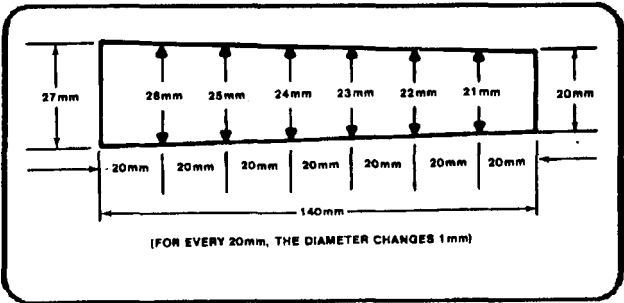

Figure 7-66. Metric taper, 1:200mm.
Metric tapers can also be calculated for taper turning by using the offset tailstock method. Metric tapers are expressed as a ratio of 1 mm per unit of length. Figure 7-66 shows how the work would taper 1 mm in a distance of 20 mm. This taper would then be given as a ratio of 1:20 and would be annotated on small diameter (d) will be 1 mm greater (d +). Refer to the following formula for calculating the dimensions of a metric taper. If the small diameter (d), the unit length of taper (k), and the total length of taper (l) are known, then the large diameter (D) may be calculated. The large diameter (D) will be equal to the small diameter plus the amount of taper. The amount of taper for the unit length (k) is (d + 1) - (d). Therefore, the amount of taper per millimeter of unit length = (1/k). The total amount of taper will be the taper per millimeter (1/k) multiplied by the total length of taper (l).